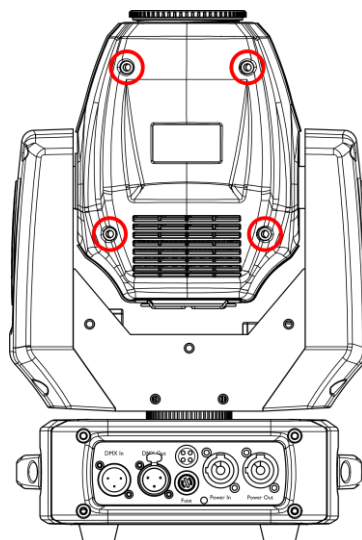

Fig. 07
- 03) Remove the lamp cover by unscrewing the 4 screws (see fig. 07).